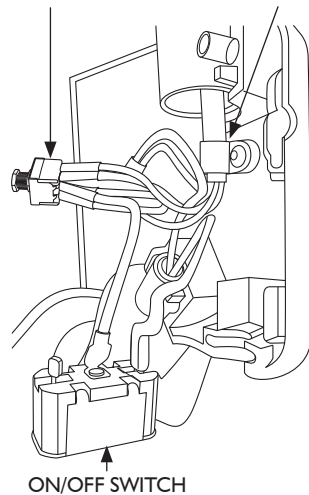

FIGURE 2
3. Pull the intensity switch and the on/off switch from the housing. Cut the wiring 2.5 in. to 3 in. from the intensity switch and the on/off switch body to allow rewiring. **Figure 2.**
4. Remove the cable clamp from the housing with a 5/64 in. hex key. **Figure 2.**